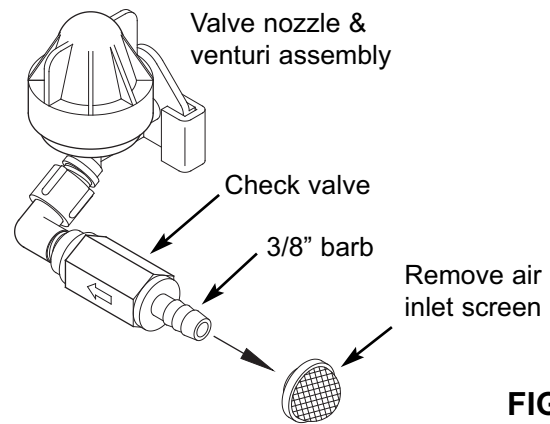

FIG. 10
2. Remove air inlet screen from check valve on the valve's nozzle & venturi assembly (See Figure 10).